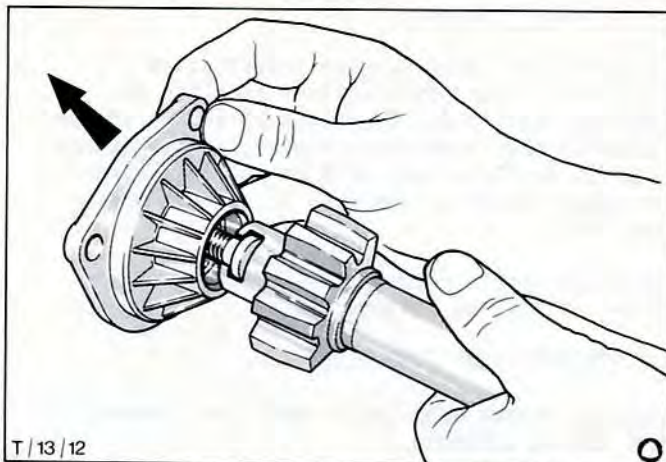

Fig.21. Separate rocker shaft from side cover and adjusting screw.
3. Screw in adjusting screw and separate rocker shaft and cover, Fig.21.